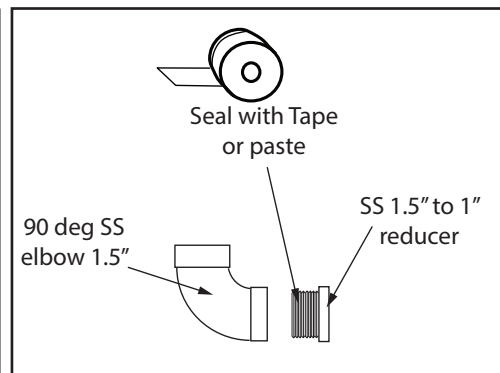

FIG. 9
- B) Attach 1.5" x 1" reducing fitting to elbow with sealing tape or paste (see FIG 9)